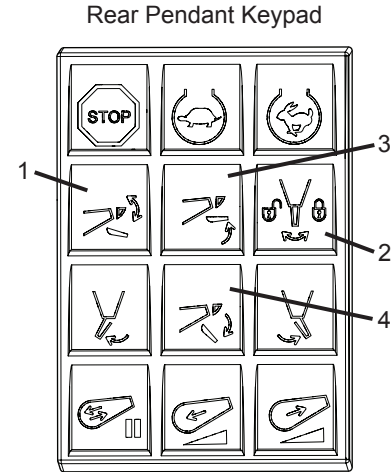

Figure 21
**Hopper Operation:** Push the Hopper button to raise/lower air hopper (option) (Figure 21, Item 1).
**Chute Lock:** Push the Chute Lock button to lock/unlock air chute lock (Figure 21, Item 2).
**Chute Raise Operation:** Push the Chute Raise button to raise chute (Figure 21, Item 3).